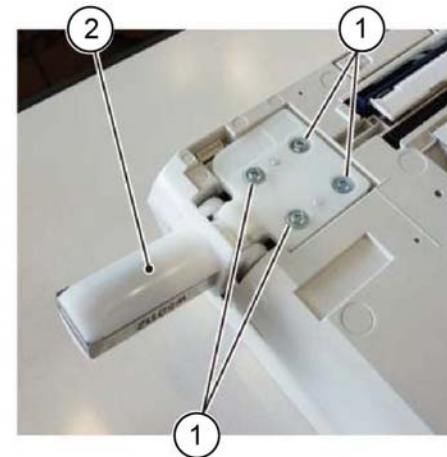

Figure 1 Counter balance removal
3. Remove the left counter balance, Figure 1:
- a. Remove four screws (1).
- b. Remove the left counter balance (2).